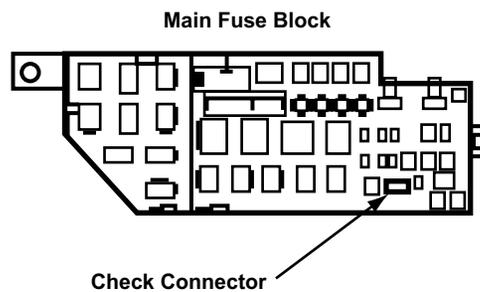

Figure MA014-18
8. Use a fused jumper wire to ground the fuel pump check connector (Blu-Blk wire) terminal (Figure MA014-18).